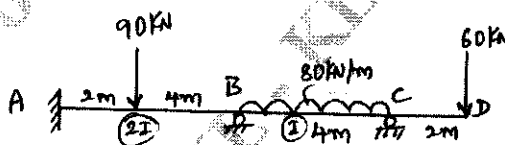

Fig.Q5
- 5 Analyse the continuous beam by displacement transformation method. Draw BMD, SFD and elastic curve. Refer Fig.Q5.